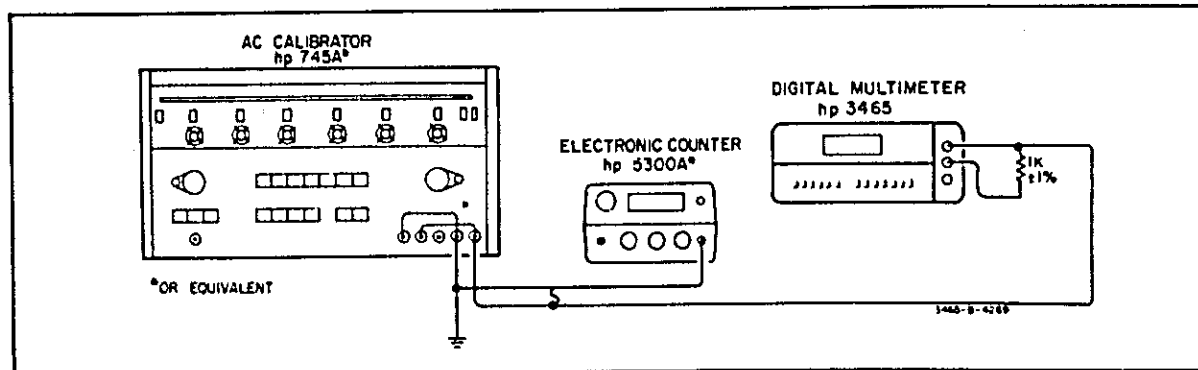

Figure 5-6. AC Effective Common-Mode Rejection Test.
- c. Connect the AC Calibrator to the Multimeter as shown in Figure 5-6.